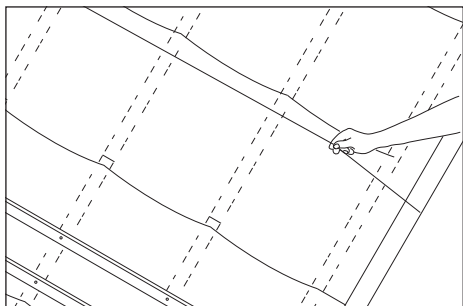

Fig. 5 – Striking chalk lines
- 1 Strike a chalk/ochre line at 90° to perpendicular line (Fig. 5).